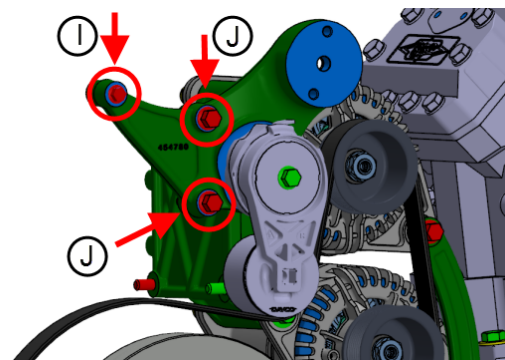

FIGURE 23
31. Mount the alternator belt tensioner bracket assembly loosely using previously removed bolts I & J (**FIGURE 23**).